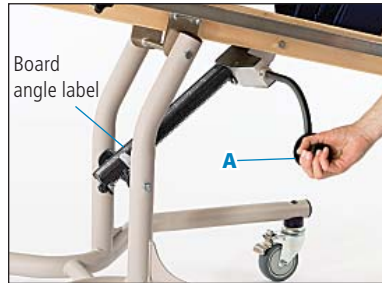

Figure 9a
The hand crank (A) controls the transfer height adjustment and the tilt angle of the mainboard. By turning the crank, the board will begin to tilt. Continue to turn the crank until the desired angle is reached (see Figure 9a).